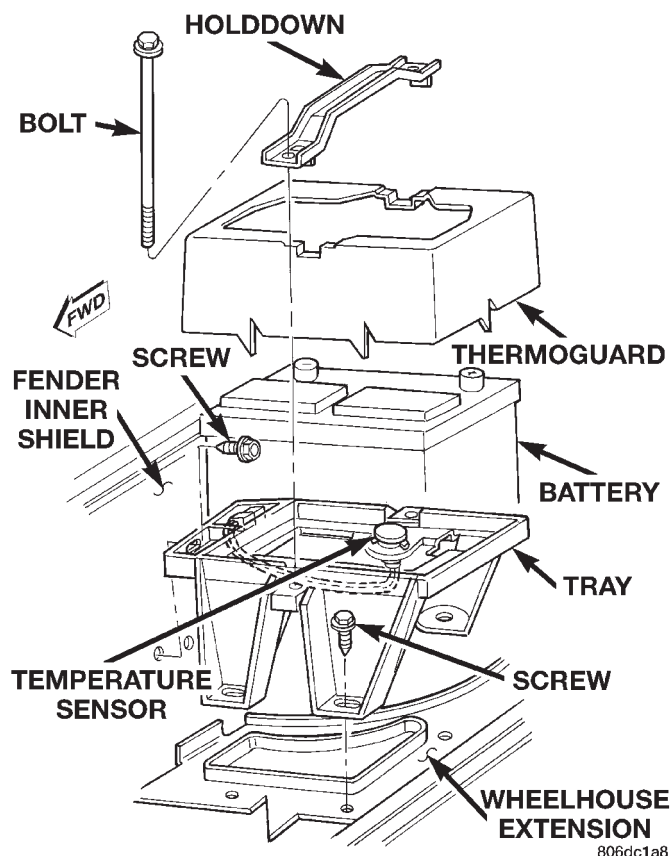

Fig. 12 Battery Holddown
(4) Remove the battery holddowns and remove the battery from the vehicle (Fig. 12).